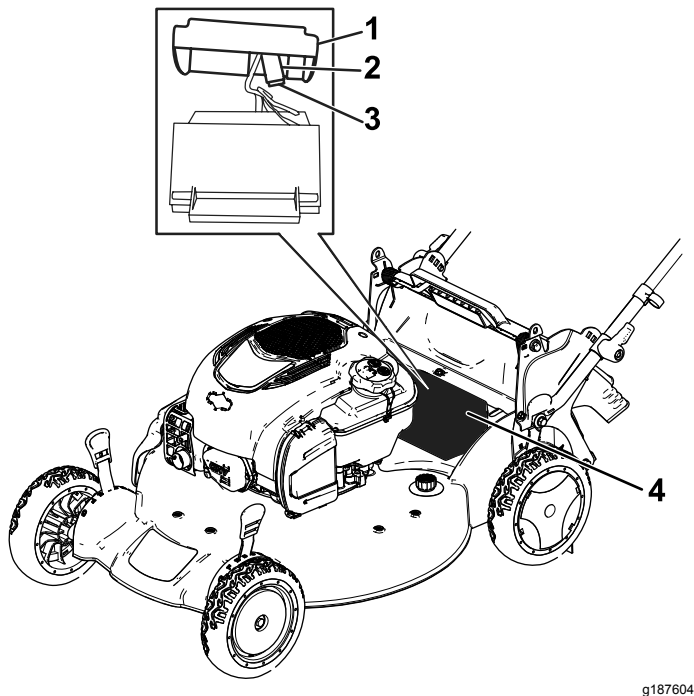

Figure 36
1. Remove the cover from the battery compartment (Figure 36).
2. Pull out the battery and locate the fuse (Figure 36).
3. Replace the fuse in the fuse holder (Figure 36).
4. Install the cover over the battery compartment (Figure 36).